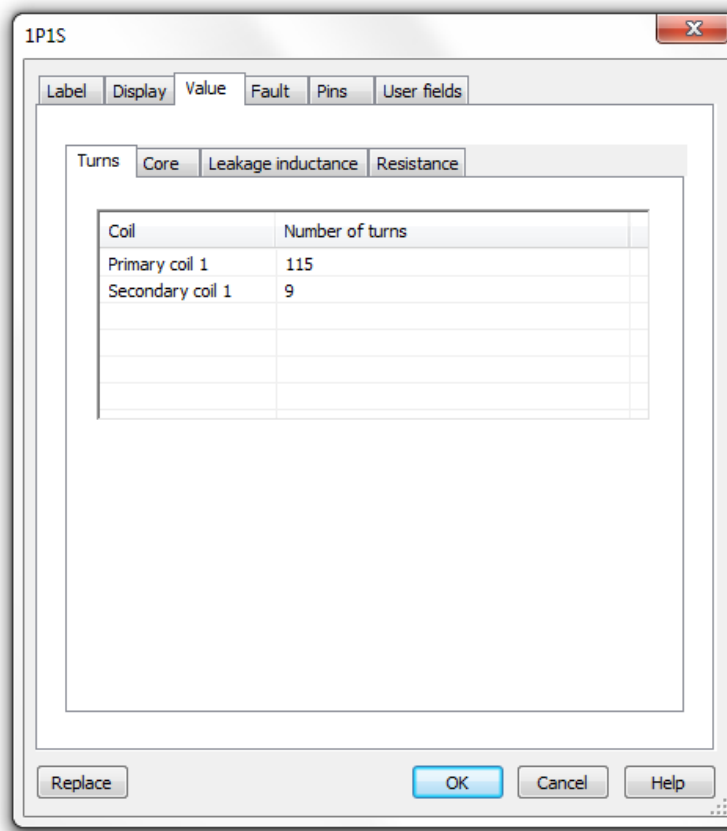

Figure 4 – Transformer Properties
- c. **Double-click** the transformer to change its turn ratio as shown below in **Figure 4**.